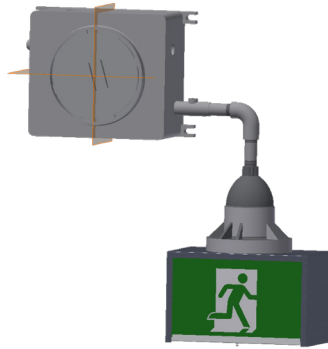

Figure 4
1. Orient the unit or wall or ceiling mount by turning the stems (figure 4).